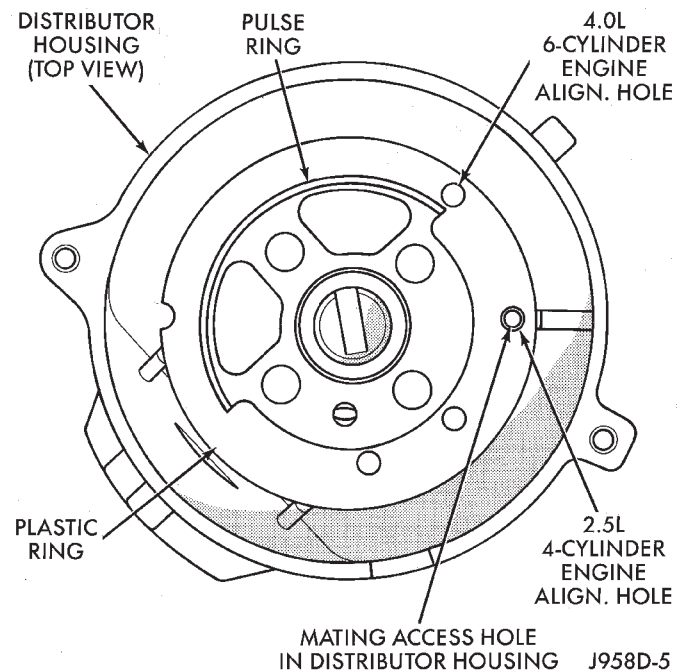

Fig. 40 Pin Alignment Holes
(4) If the original distributor is to be reinstalled, such as during engine overhaul, the plastic pin will not be available. A 3/16 inch drift pin punch tool may be substituted for the plastic pin.
(5) Remove the camshaft position sensor from the distributor housing. Lift straight up.
(6) Four different alignment holes are provided on the plastic ring (Fig. 40). **Note that 2.5L and 4.0L engines have different alignment holes (Fig. 40).**
(7) Rotate the distributor shaft and install the pin punch tool through the proper alignment hole in the plastic ring (Fig. 40) and into the mating access hole in the distributor housing. This will prevent the distributor shaft and rotor from rotating.